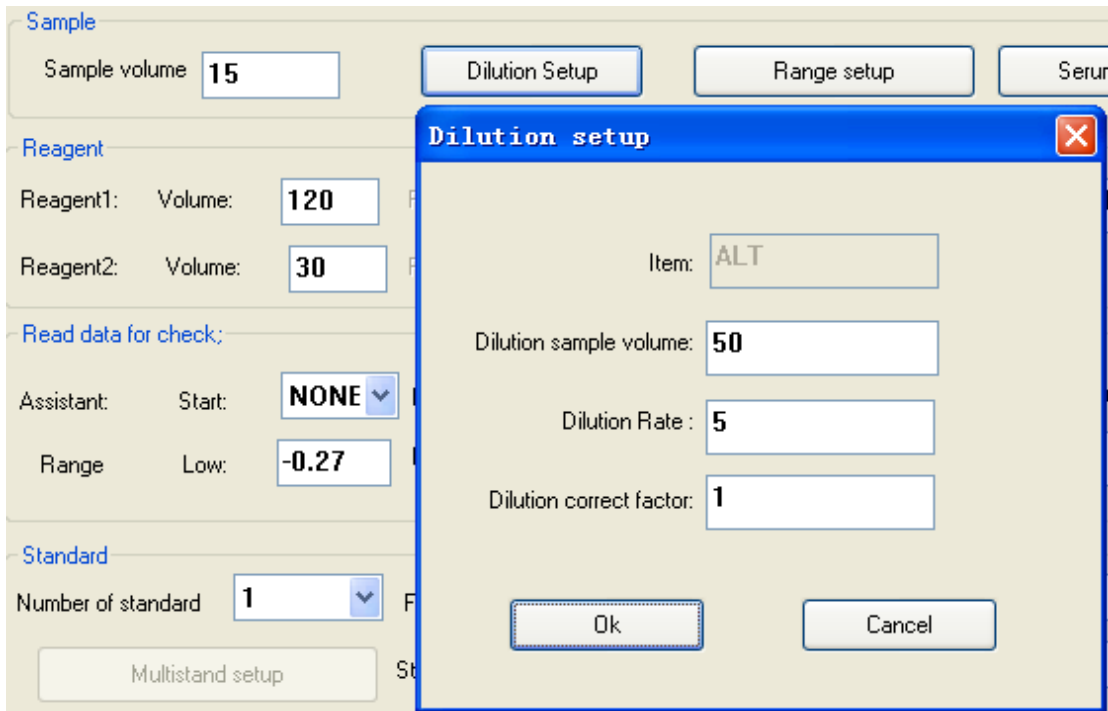

Figure 5-47
2). Choose water dilution mode, as shown in figure 5-47: